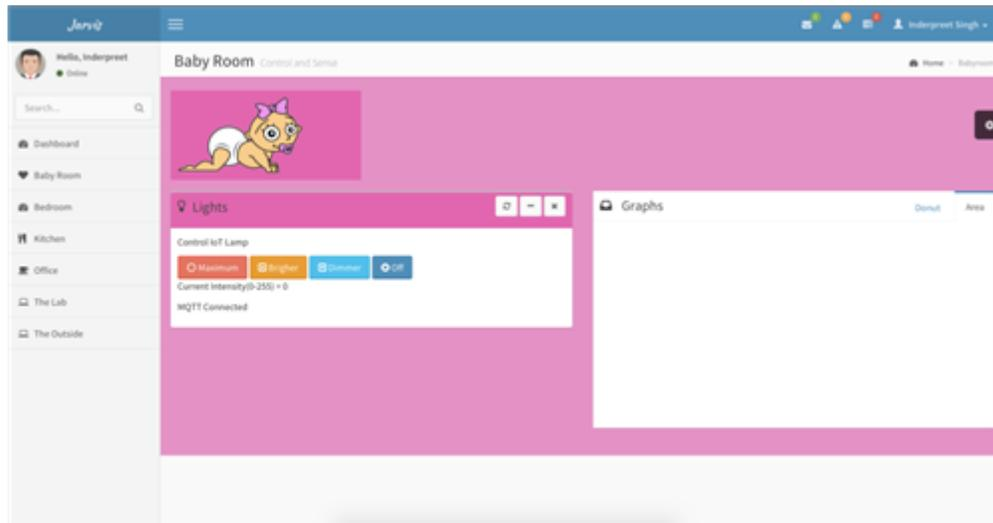

Figure 4. The Live Webpage for Remote Control
With my basic understanding of HTML, Code Composer Studio IDE and JavaScript®, I was able to create a simple user interface (UI) for my project. The idea was to create buttons in a web interface and then use JavaScript to send the commands via MQTT to the broker and finally to the IoT light. I used the Paho library in JavaScript and performed a bit of cosmetic surgery via Code Composer Studio to create a webpage that looks nice; Figure 4 is a screenshot.